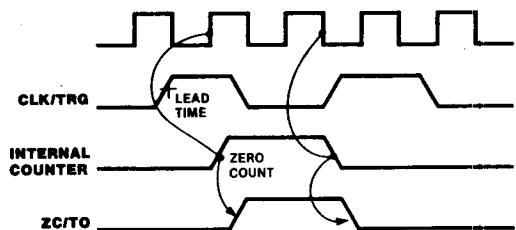

Figure 12. Counter Mode Timing
**Counter Operation.** In the counter mode, the CLK/TRG pulse input decrements the downcounter. The trigger is asynchronous, but the count is synchronized with CLK. For the decrement to occur on the next rising edge of CLK, the trigger edge must precede CLK by a minimum lead time as shown in Figure 12. If the lead time is less than specified, the count is delayed by one clock cycle. The trigger pulse must have a minimum width, and the trigger period must be at least twice the clock period. If the trigger repetition rate is faster than 1/3 the clock frequency, then TsCTR(Cs), AC Characteristics Specification 26, must be met.